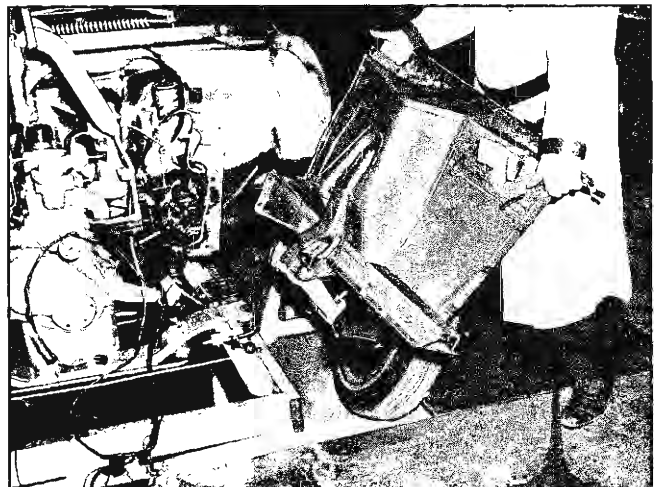

Fig. 37—Removing Skirt Assembly
12. Remove skirt assembly with remaining suspension parts attached as shown in Figure 37.